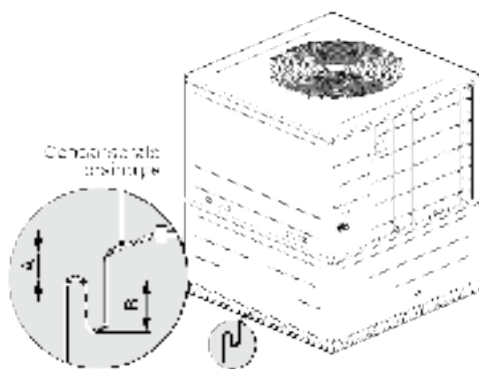

Fig.11
- (1) Condensate drain side is pitched lower than the opposite side. (see Fig. 11)
- (2) When shipped out from factory, both the condensate outlets are blocked by rubber plug. So before installation, please take the rubber plug out.
- (3) Condensate removal is performed by attaching a PVC pipe to the drain pan and terminated in accordance with local or state Plumbing/HVAC codes.
- (4) The condensate pipe shall be installed with an inclining angle of 5~10°, so as to facilitate the drainage of condensate.
- (5) As the inside of the unit is in the negative pressure status, it is required to set up a backwater elbow. The requirements is: $A=B \geq P/10+20(\text{mm})$.P is the absolute pressure inside the unit. The unit of the pressure is Pa.
- (6) After the electrical installation is completed, carry out the testing of the drainage system.
- (7) It is not allowed to connect the condensate drain pipe into waste pipe or other pipelines which are likely to produce corrosive or peculiar smell to prevent the smell from entering indoors or corrupt the unit.
- (8) It is not allowed to connect the condensate drain pipe into rain pipe to prevent rain water from pouring in and cause property loss or personal injury.
- (9) Condensate drain pipe should be connected into special drain system for air conditioner.